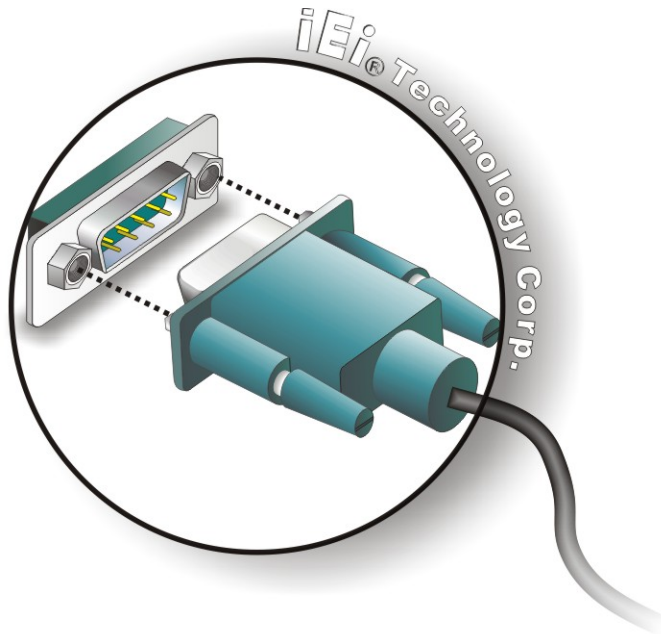

Figure 4-20: Serial Device Connector
Step 2: **Insert the serial connector.** Insert the DB-9 connector of a serial device into the DB-9 connector on the bottom panel. See **Figure 4-20**.